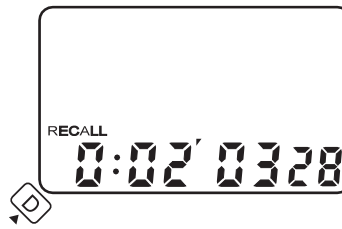

Fig. 11
-Press D again shows the stopped time, Fig. 11.